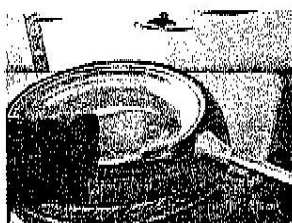

Fig.10
4. Press the tyre by plastic roller (R) to separate the rim from the bead, press the pedal (Q) to turn the turntable(V), dip the prepared lubricator with the brush and then lubricate the bead while turning(Fig. 10), it is easy to damage the bead if do not follow the above instructions.